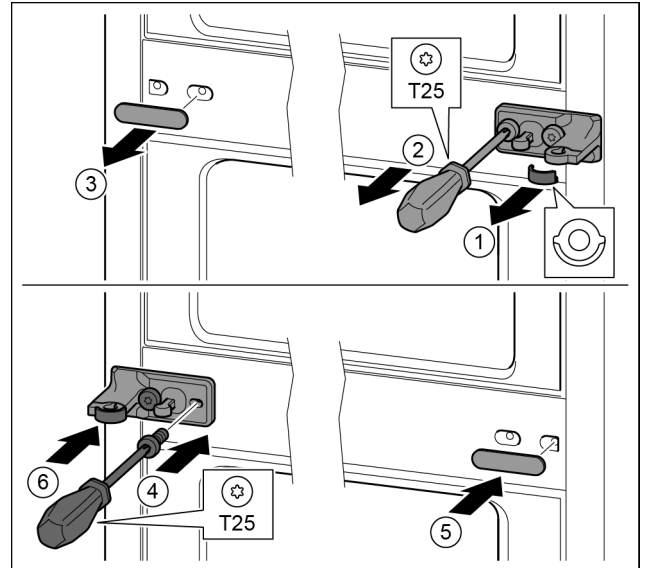

Fig. 29
- ▶ Remove the washer. Fig. 29 (1)
- ▶ Remove the screws with the T25 screwdriver. Fig. 29 (2)
- ▶ Remove the cover carefully. Fig. 29 (3)
- ▶ Screw the bearing bracket and the film rotated 180° firmly onto the other side. Fig. 29 (4)
- ▶ Attach the cover rotated 180° onto the other side. Fig. 29 (5)
- ▶ Push the washer in from the front. Fig. 29 (6)